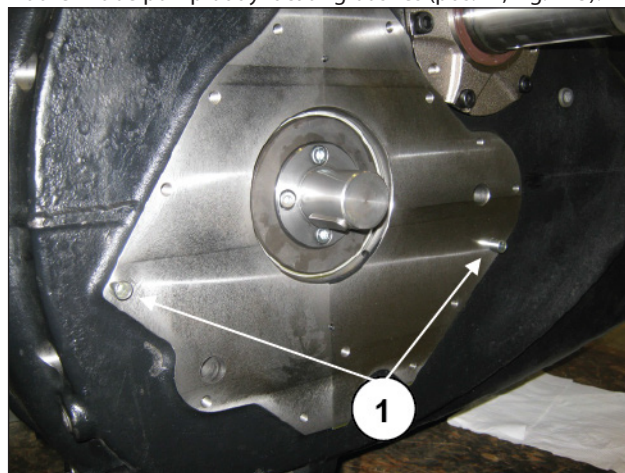

Fig. 125
Fit the 2 lube pump body locating bushes (pos. ①, Fig. 125).